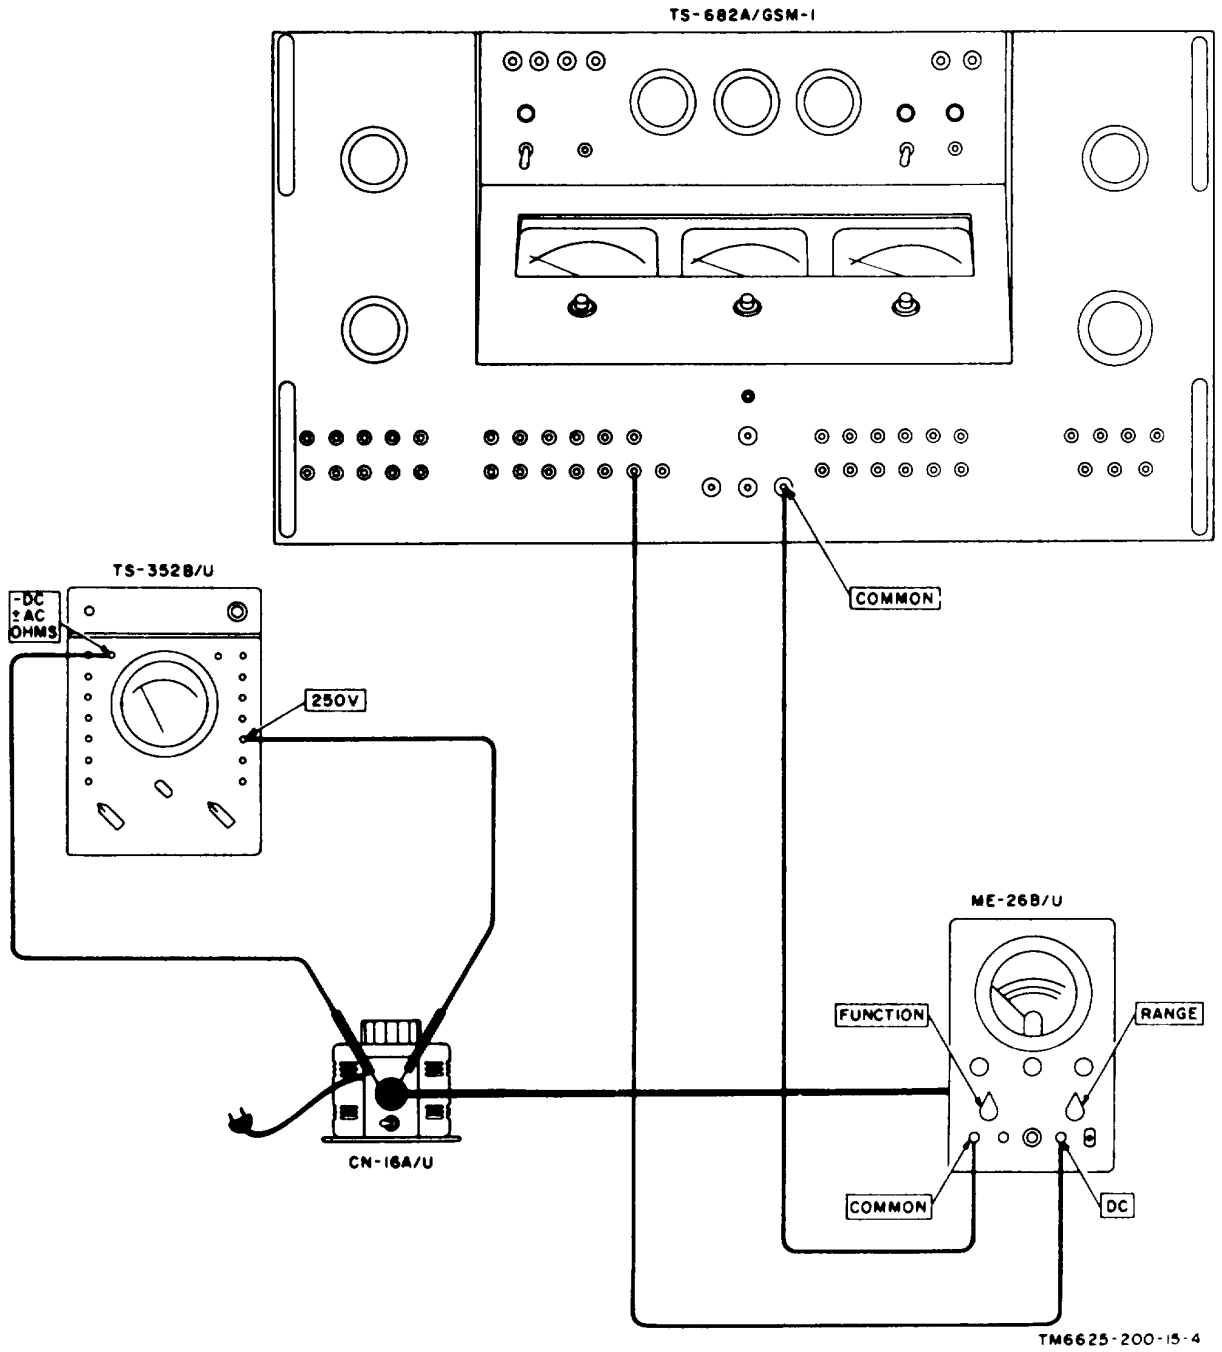

Figure 8-1. Multimeter response with line voltage variation test setup.
- (1) Test Set, Meter TS-682A/GSM-1.
- (2) Transformer, Power (Variable) CN-16A,/U.
- (3) Multimeter TS-352B/U.
- b. *Test Connections (kid Conditions. Connect the equipment as shown in figure 8-1.*